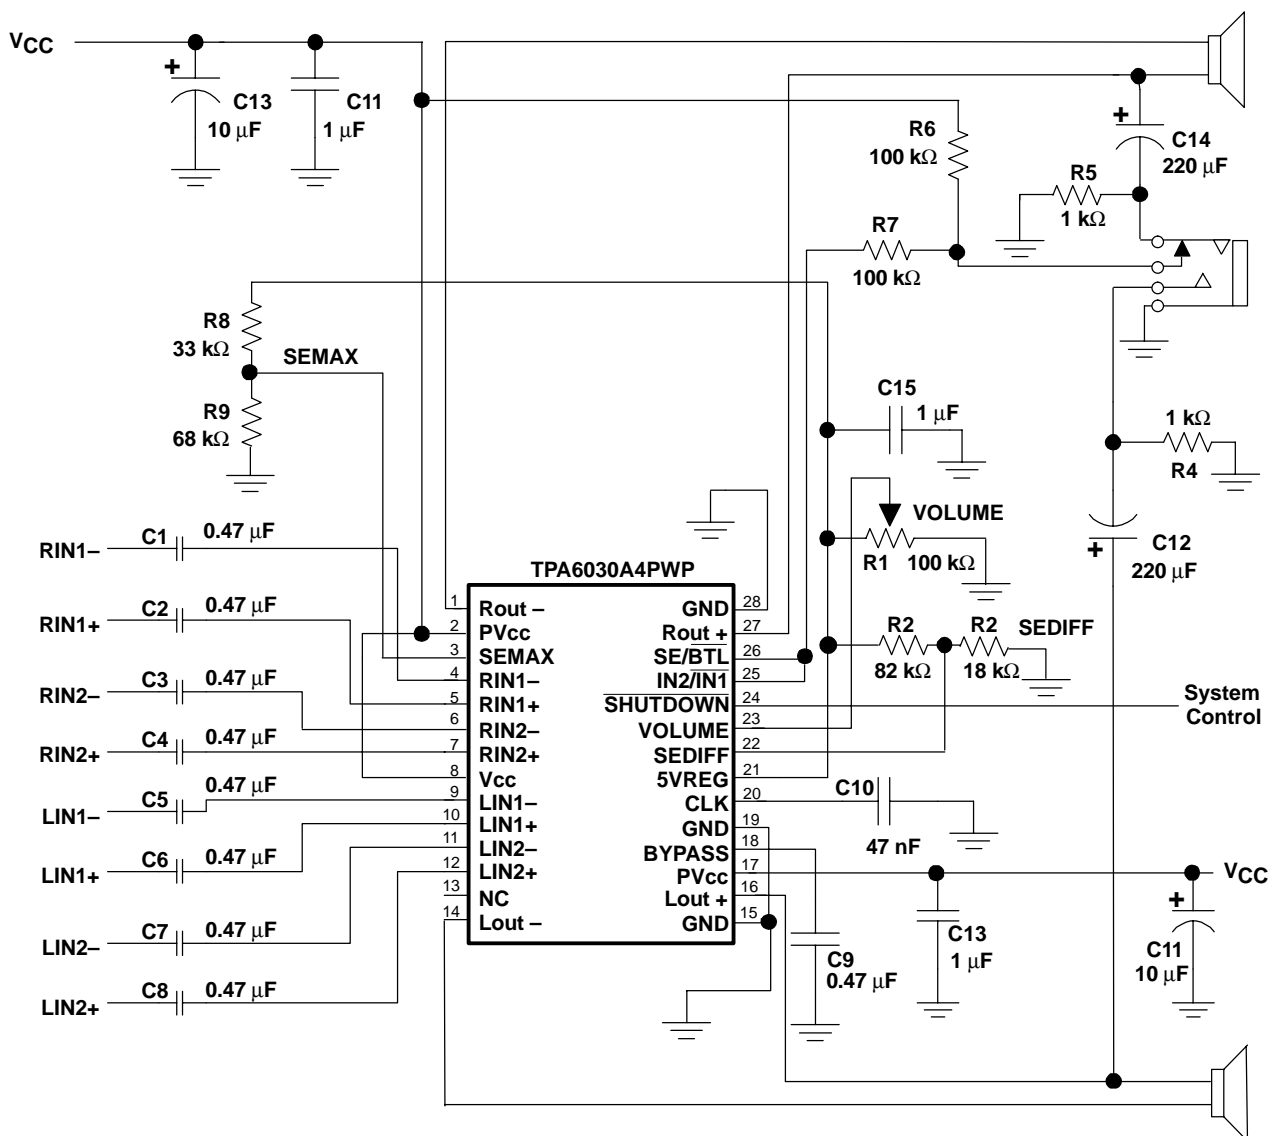

Figure 22. Typical Application Circuit for an LCD Monitor
The circuit shown in Figure 22 automatically switches between headphone outputs and speaker outputs when a headphone plug is inserted or removed from the headphone jack. Additionally, this circuit uses resistor divider networks to limit the headphone volume. Resistors R8 and R9 form a divider network that applies 67% of 5VREF to the SEMAX pin, which results in a maximum output of 7.2 dB. Resistors R2 and R3 form a divider network that applies 18% of 5VREF to the SEDIFF pin.
Using a readily available 1/8-in. (3.5 mm) stereo headphone jack, the control switch is closed when no plug is inserted. When closed, the parallel combination of R5 and R7 (see Figure 22) pulls the SE/BTL pin low⁽¹⁾, causing the device to operate in BTL mode. When a plug is inserted, the 1-kΩ resistor is disconnected and the SE/BTL input is pulled high⁽¹⁾. When the input goes high⁽¹⁾, the negative output amplifiers go into a state of high impedance, essentially open circuiting the speaker. The positive output amplifiers then drive through the output capacitor (CO) into the headphone jack.
In some applications, it may be desirable to have one input specifically for BTL operation and one input specifically for SE operation. This is accomplished by tying the SE/BTL and IN2/IN1 pins together and connecting them to a common control voltage. An example of this type of configuration can be found in Figure 22. The two pins are tied together and are connected to the resistor divider network. That network is connected to the stereo headphone jack, and is closed when no plug is inserted. This pulls both the IN2/IN1 and SE/BTL pins low, causing the amplifier to go into BTL mode using the IN1 (RIN1 and LIN1) inputs. Should a headphone plug be inserted into the headphone jack, both inputs would be pulled high, and the amplifier would be in SE mode using the IN2 inputs.